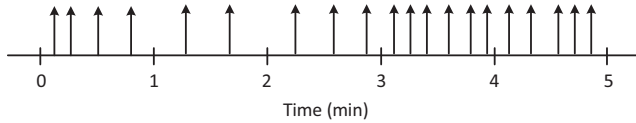

Figure 5.25 The train of pulses generated by a pulse watt-hour meter in Exercise 5.7.
- 5.7** A pulse meter generates 20 pulses in a duration of five minutes as shown in Figure 5.25. Each pulse is equivalent to 0.5 kWh.